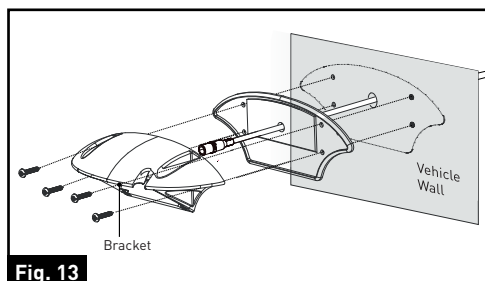

Fig. 13
4. Fix the gasket and bracket to the vehicle using four $\frac{3}{4}$ " flat self-tapping screws. Make sure the camera power cable is not wrapped or extruded. (Fig. 13)